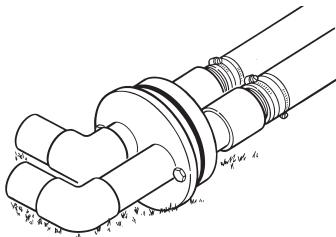

Figure 10
- Install steel elbows on the top end of the nipples (See Figure 10). Teflon tape all threaded joints to prevent leaks!